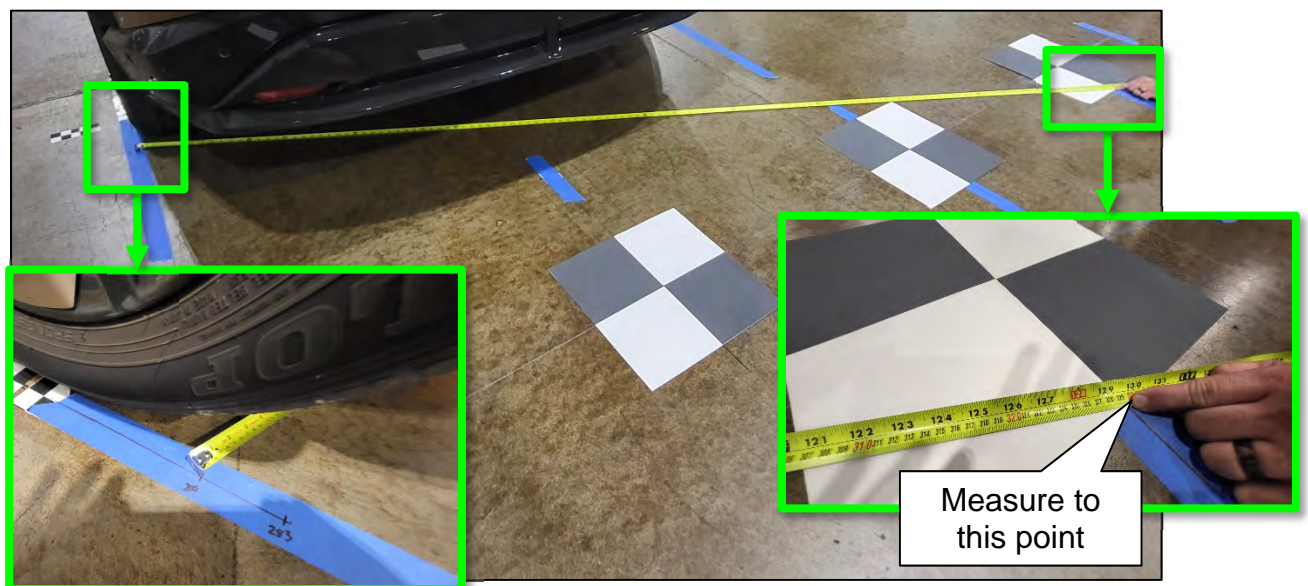

Figure 108
**IMPORTANT:** Do not measure to the center point of the target. Measure to the point shown in Figure 108.